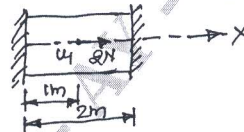

Fig.Q2(a)
- 2 a. Fig.Q2(a) shows a bar fixed at both ends subjected to an axial load as indicated determine the displacement at loading point and the corresponding stress, using Rayleigh-Ritz method.